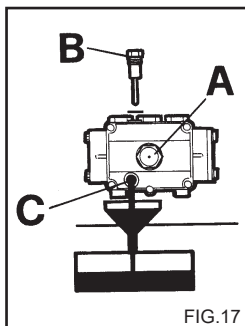

FIG. 17
- 1) Unscrew the drain cap situated under the pump (fig. 17 C).
- 2) Unscrew the cap with the dipstick (fig. 17).